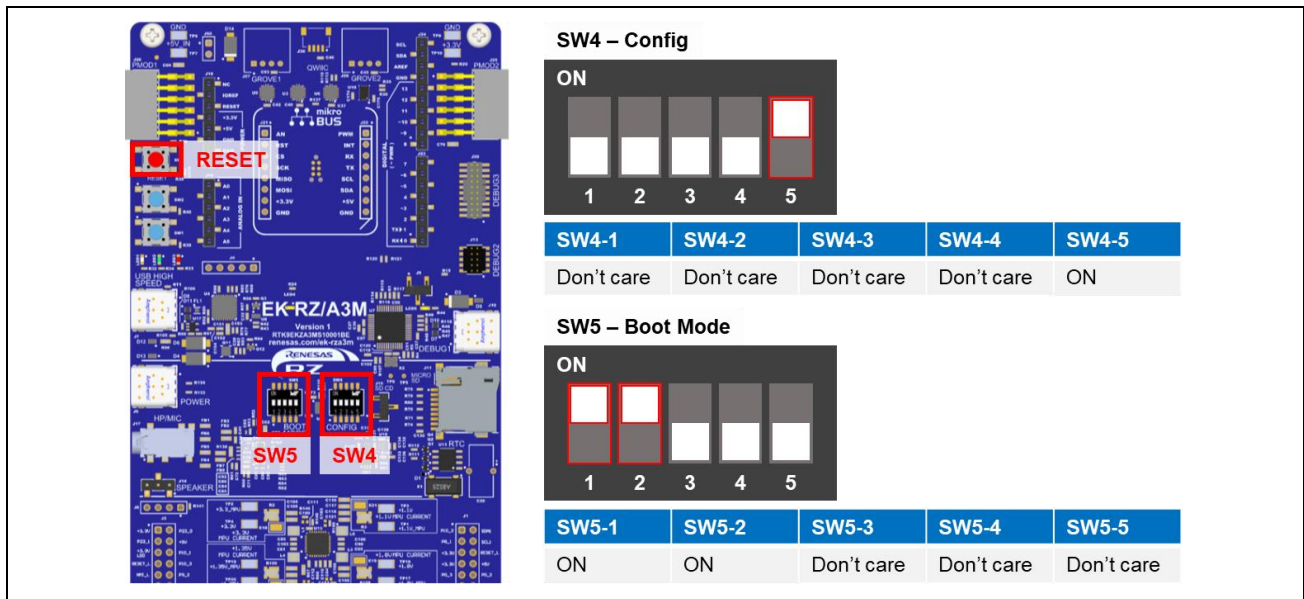

Figure 3.22 SW4,5 setting diagram
1. Disconnect the power once and set the SW4,5 of EK-RZ/A3M as shown in Figure 3.22. For more information about the switch settings, see **4.3.4 Board Configuration Switch Settings** of EK-RZ/A3M User's Manual.